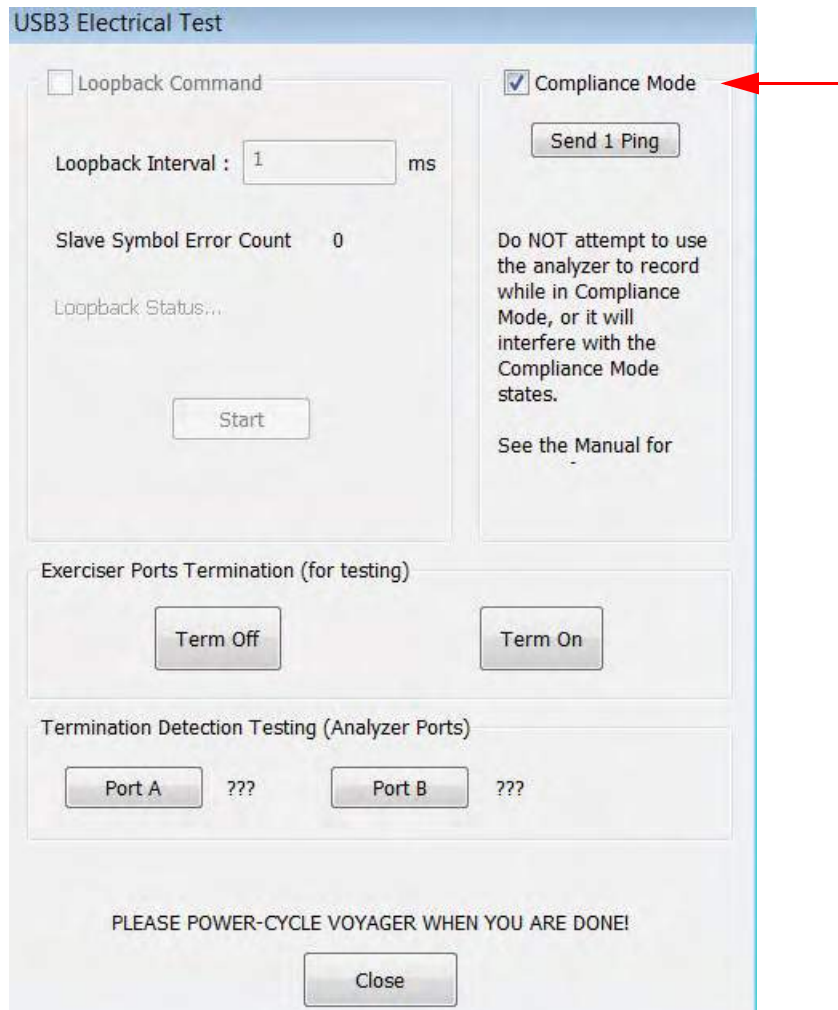

Figure 12.18: USB 3.1 Electrical Test Dialog
4. In the USB 3.1 Electrical Test dialog, check the **Compliance Mode** box (see Figure 12.18 on page 560.)